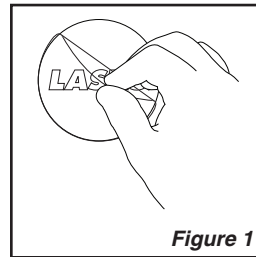

Figure 1
3. Remove plastic film from ornament and discard. (Figure 1)